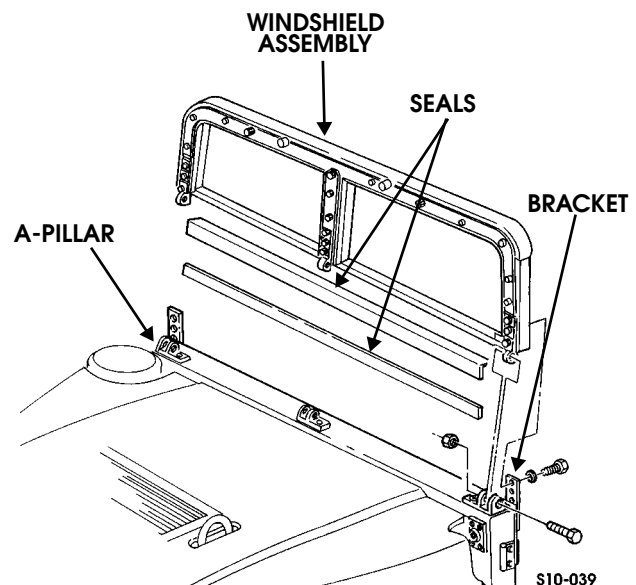

Figure 10-104: Windshield Assembly Mounting
5. Remove two locknuts and bolts securing windshield assembly to A-pillar (Figure 10-104).
7. Remove six bolts and washers securing windshield assembly to two brackets (Figure 10-104).
1. Position two seals on windshield assembly (Figure 10-104).
5. Secure windshield assembly to A-pillar with two bolts and locknuts (Figure 10-104).